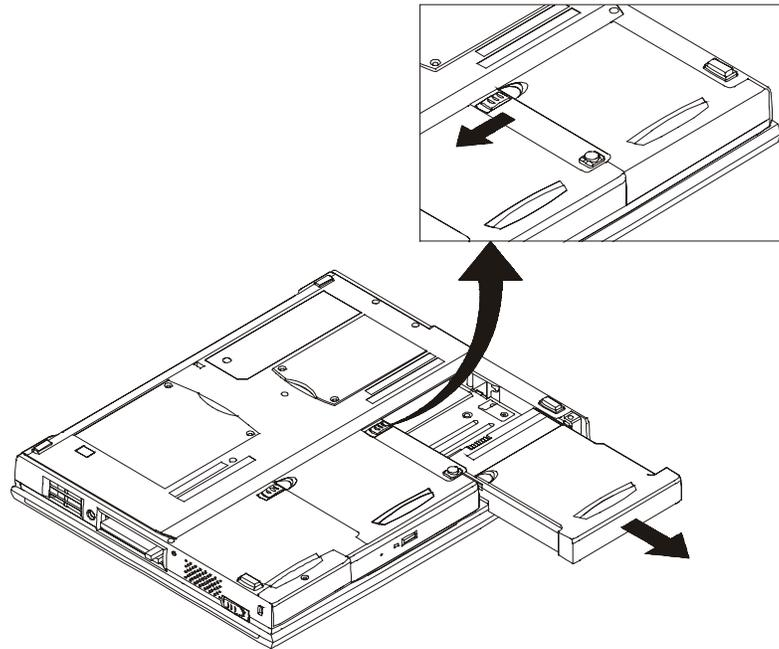

Figure 5-3: Removing the Battery Pack
To remove the battery pack from its housing, refer to **Figure 5-3** and the following instructions:
3. Slide the latch lock in the direction of the arrow, as shown in **Figure 5-3**.